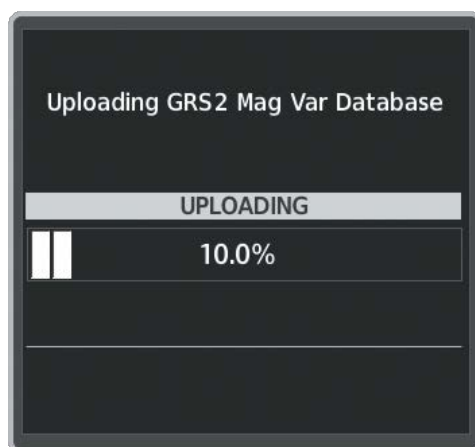

Figure B-17 Uploading Database to GRS2
- 3) With 'OK' highlighted, press the **ENT** Key on the MFD. A progress monitor is displayed as shown in Figure B-17. When the upload is complete, the system is ready for use.